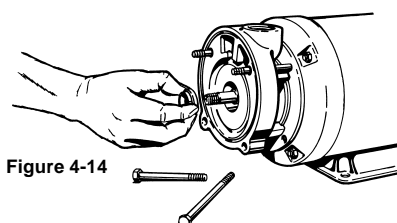

Figure 4-14
- c. Install the four (4) "O" rings (#8) on the two studs. This will help hold the bracket in place during the remainder of the assembly operation.
- c. It is generally easier to remove the entire head or sealing assembly from the spring and install it on the motor shaft. Refer to Figure 4-14. This assembly lifts out of the rotating element spring.
- e. Holding the head assembly between the thumb and index finger, with the sealing face pointing toward the stationary seat, slide the assembly over the motor shaft until it rests against the seat. Refer to Figure 4-14. A slight twisting motion will allow the assembly to slide more easily.
- h. Align the keyway slot in the hub assembly, and the key in the motor shaft. Refer to Figure 4-14,